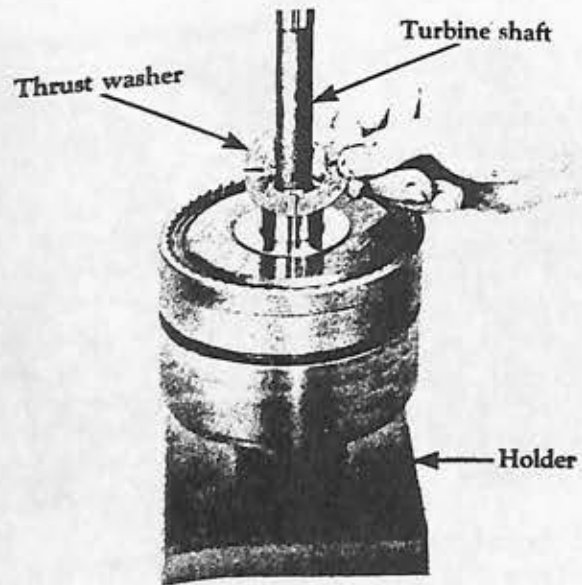
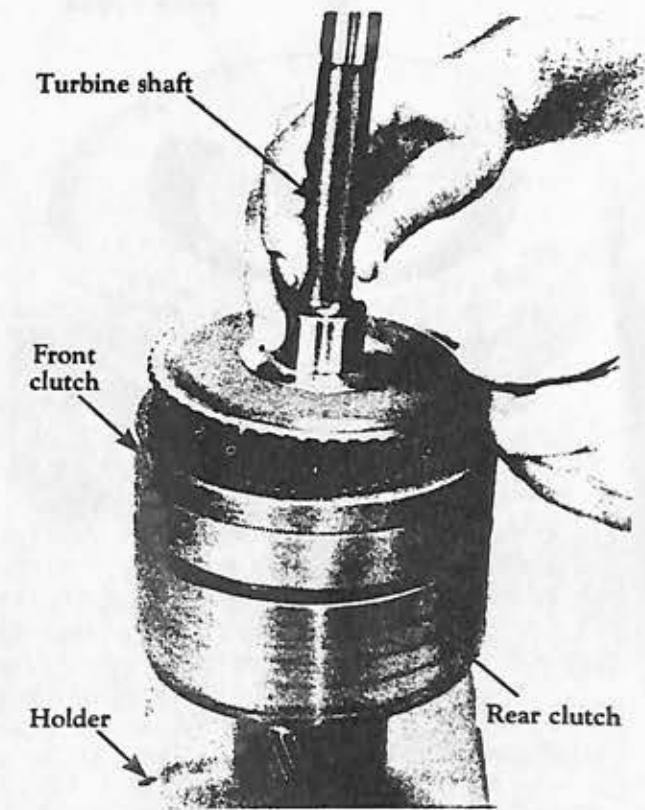
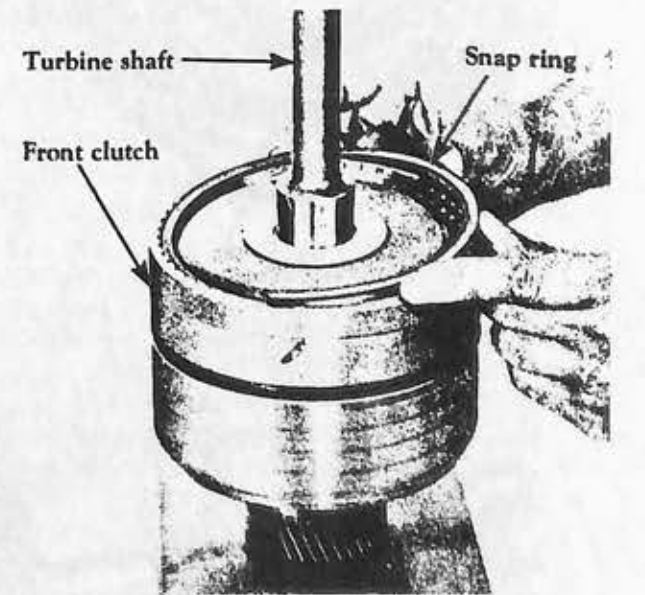

Fig. 56
Fig. 93
Fig. 94
5. Install the clutch assemblies in the holders (Fig. 56).
1. Remove the thrust washer from the turbine shaft (Fig. 56).
Install the turbine shaft in the clutch cylinder (Fig. 93), then install the snap ring (Fig. 94). **NOTE:** Make sure the snap ring is fully seated in the groove. Install the thrust washer on the turbine shaft (Fig. 56).